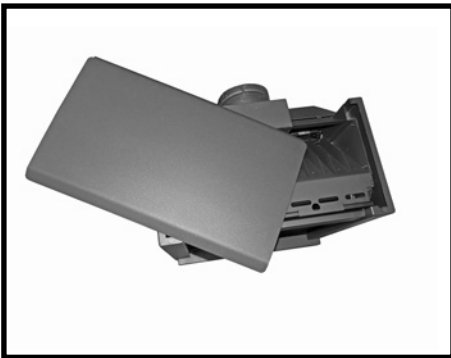

Figure 37: TN24 top cover.
1. Remove the top cover as shown in (Figure 37).